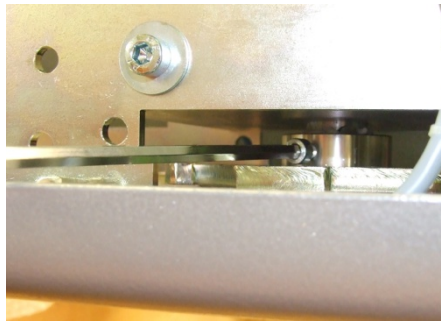

Fig. 16: Removing the fixing screw
1. Turn the screw on the drive shaft using a size 6 hex wrench until the first fixing screw (Fig. 16) becomes visible.